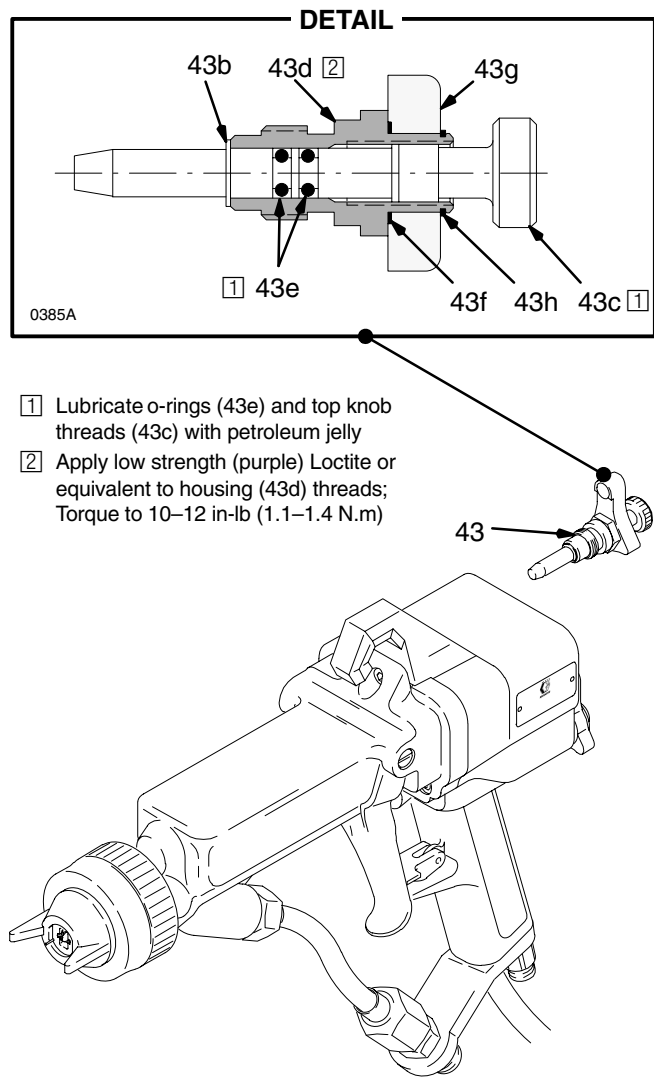

Fig. 19
2. Remove the retaining ring (43h). See Fig. 19.
3. Slide the KV HI-LO lever (43g) up, place a wrench on the flats of the valve housing and remove the air control valve assembly (43).
7. Reassemble the air control valve (43). Lubricate the o-rings (43e) and the adjustment knob threads (43c) with petroleum jelly.
8. Apply low strength (*purple*) Loctite or equivalent thread sealant to the threads of the valve housing (43d) and install the air control valve assembly (43) into the gun handle.